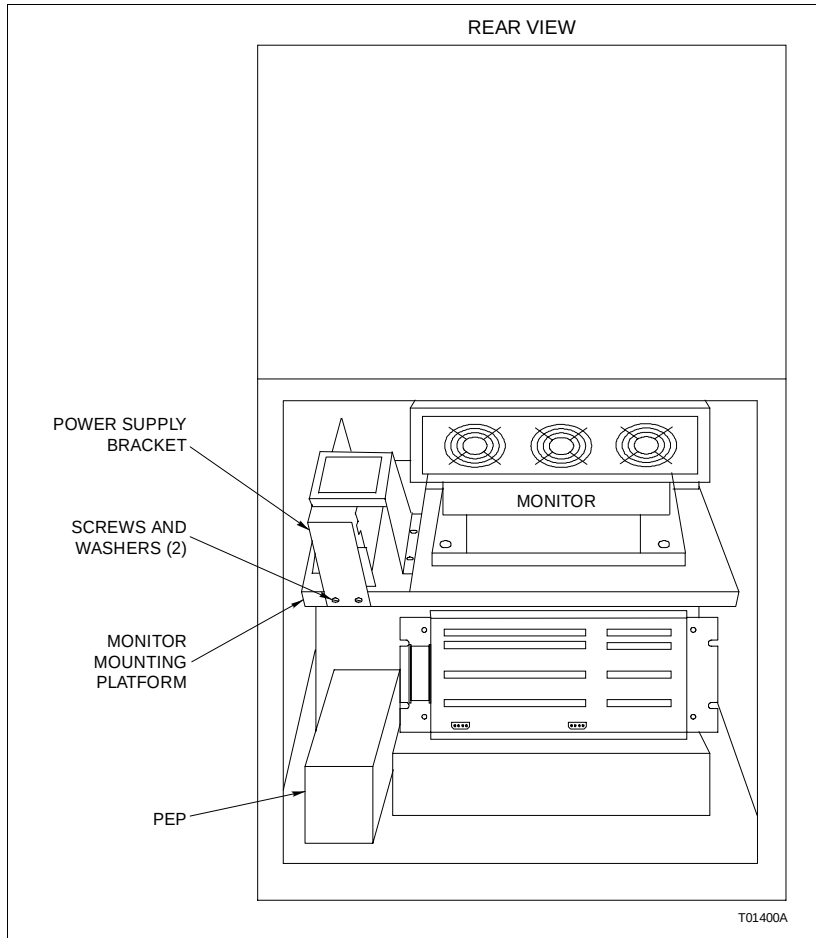

Figure PR27-1. Power Supply Installation
- ☐ 4. Use the bladed screwdriver to install the two screws that secure the power supply bracket to the monitor mounting platform (Fig PR27-1).